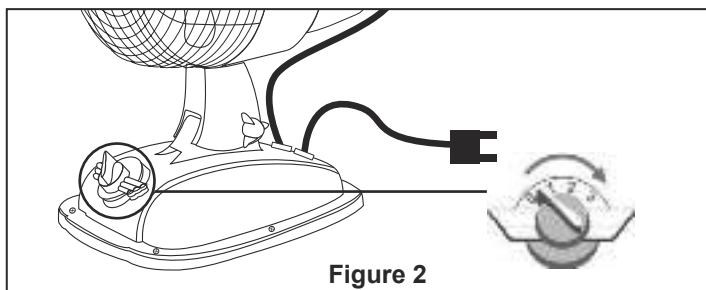

Figure 2
- ☐ 2. Select the desired airflow, located on fan base by rotating switch clockwise. (Figure 2)